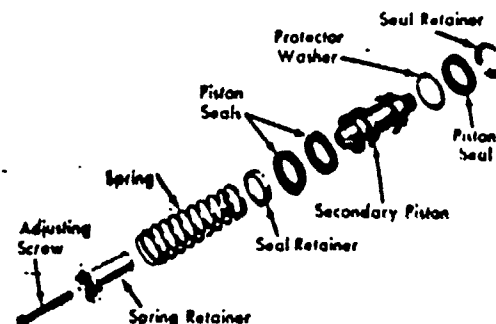

Fig. 35 Bendix Secondary Piston Disassembled.
7. Remove retainer, piston seal and protector washer from forward end of secondary piston assembly. (see fig. 35)